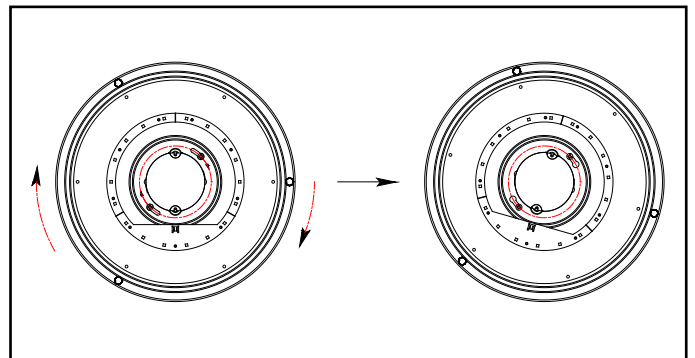

Figure 3
4. Put the luminaire plate across the screw of the lock (seen in figure 3) then rotate luminaire plate clockwise and lock it tightly with the screw lock. Securely mount the fixture plate to the junction box.